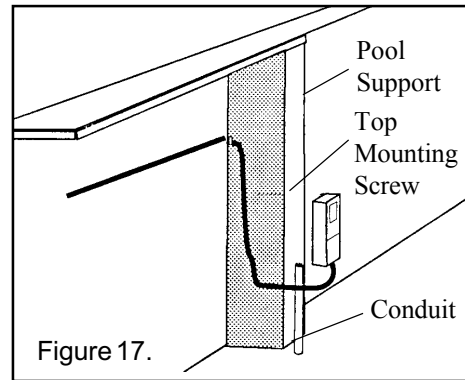
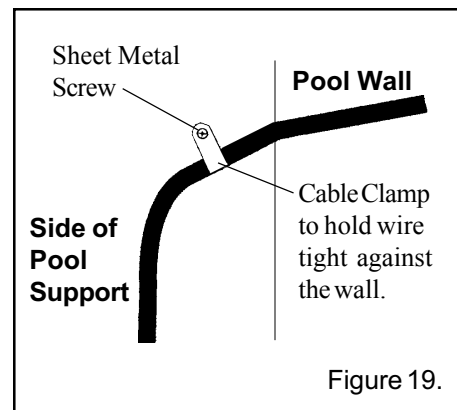

Figure 17.
Figure 19.
- Mount the transformer box on a pool support approximately 18 inches above the ground, in a position accessible to electrical connection; see Figure 17. To mount the transformer junction box, insert one of the screws provided, to a pool support.
- Using the cable clamp provided, attach the cable clamp to the cord and mount the cable clamp to the pool support, see Figure 19, so that the cord lies flush against the pool wall. Do not attach directly to the pool wall. This will keep the cord flush to the wall; see Figure 17.